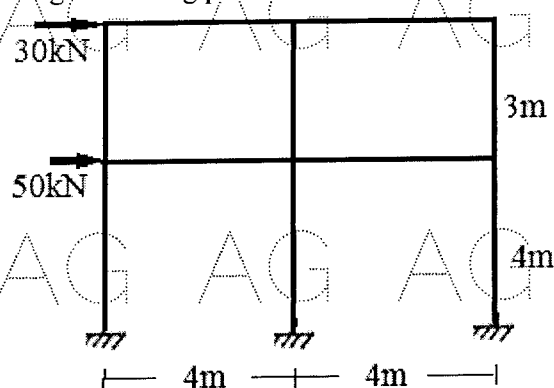

Figure 5
6. Determine the approximate values of moment, shear and axial force in each member of frame as shown in figure 5 using portal method. [10]